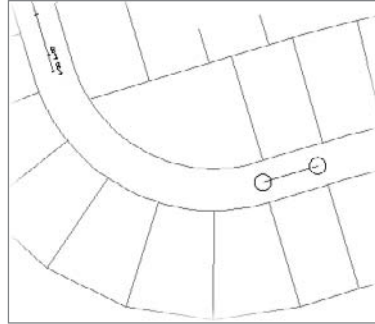

Figure A.52
10. Enter **200** \downarrow at the command line to set the radius. The arc should be placed as shown in Figure A.52.